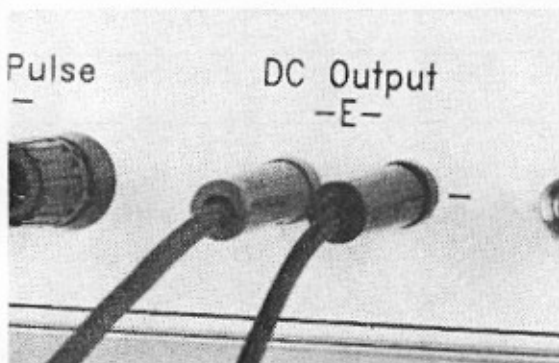

FIGURE 6. PLATING CABLE CONNECTION
- attach the Plating Cables to black and red Plate Pulse DC Outputs (refer to Figure 6). (**NOTE:** For reversed polarity connect red to black and black to red),